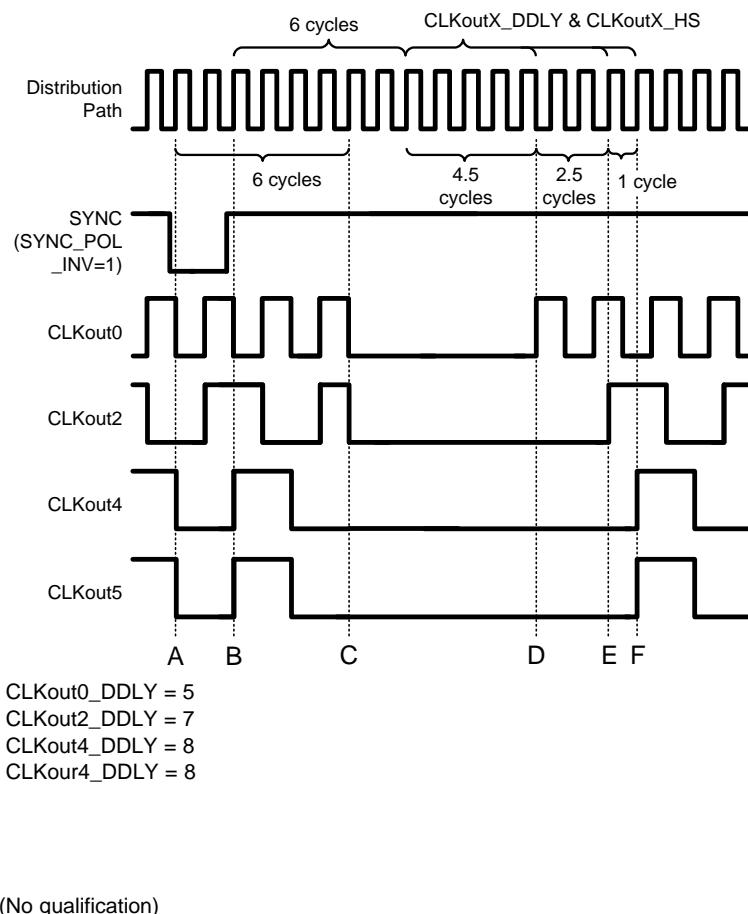

Figure 21. Clock Output synchronization using the SYNC pin (Active Low)
Figure 21 illustrates clock outputs programmed with different digital delay values during a SYNC event.
Refer to Figure 20 during this discussion on the timing of SYNC. SYNC must be asserted for greater than one clock cycle of the clock distribution path to latch the SYNC event. After SYNC is asserted, the SYNC event is latched on the rising edge of the distribution path clock, at time A. After this event has been latched, the outputs will not reflect the low state for 6 cycles, at time B. Due to the asynchronous nature of SYNC with respect to the output clocks, it is possible that a glitch pulse could be created when the clock output goes low from the SYNC event. This is shown by CLKout4 in Figure 20 and CLKout2 in Figure 21. See Relative Dynamic Digital Delay for more information on synchronizing relative to an output clock to eliminate or minimize this glitch pulse.
Figure 21 illustrates the timing with different digital delays programmed.
- For example see CLKout4 in Figure 20 and CLKout2 in Figure 21.